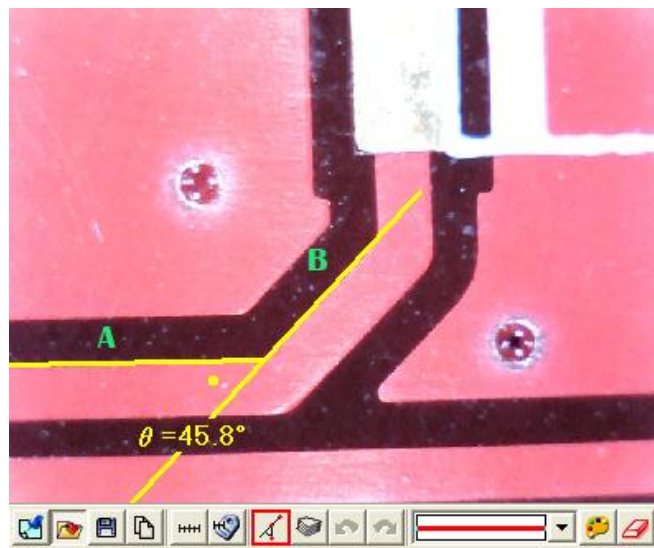

Fig 5-71 3 Points Chamfer
- (2) 3 Points Chamfer: Measure chamfer and use . Draw first line on the angle (see line A) and press the left mouse button to drag a line on the other side of the angle (See line B) to calculate the chamfer. See Fig 5-71.. There is a small dot inside the chamfer and shows 45.8° .